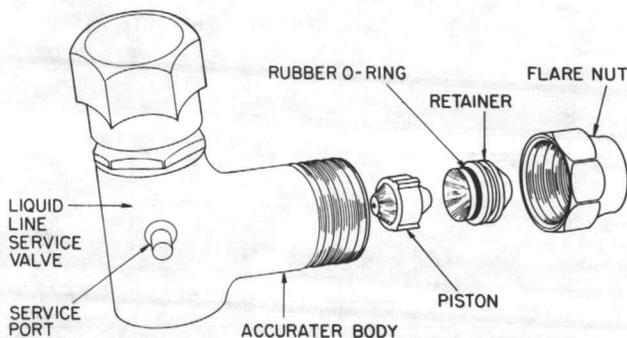

Fig. 2—AccuRater (Bypass Type) Components
Step 2—Replace Indoor AccuRater™ Piston, if Required— Check indoor coil piston to see if it matches the required piston listed in Table 2. If it does not match, replace indoor coil piston with piston shipped with this outdoor unit (located in plastic bag taped to valves). See Fig. 2.